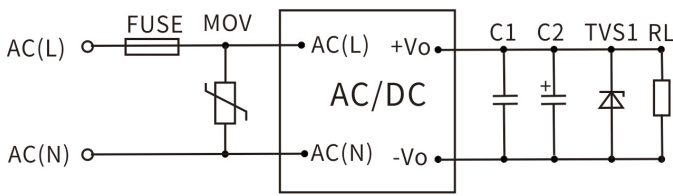
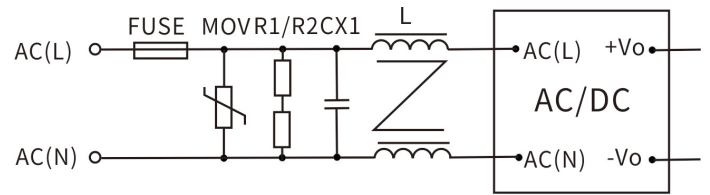

图1
图2
Figure 1 shows a normal application circuit
Figure 2 shows an EMC application circuit
5. For general application requirements, use the circuit recommended in Figure 1. If EMC compliance is required, use the circuit recommended in Figure 2. The specific recommended values for Figure 2 are as follows: